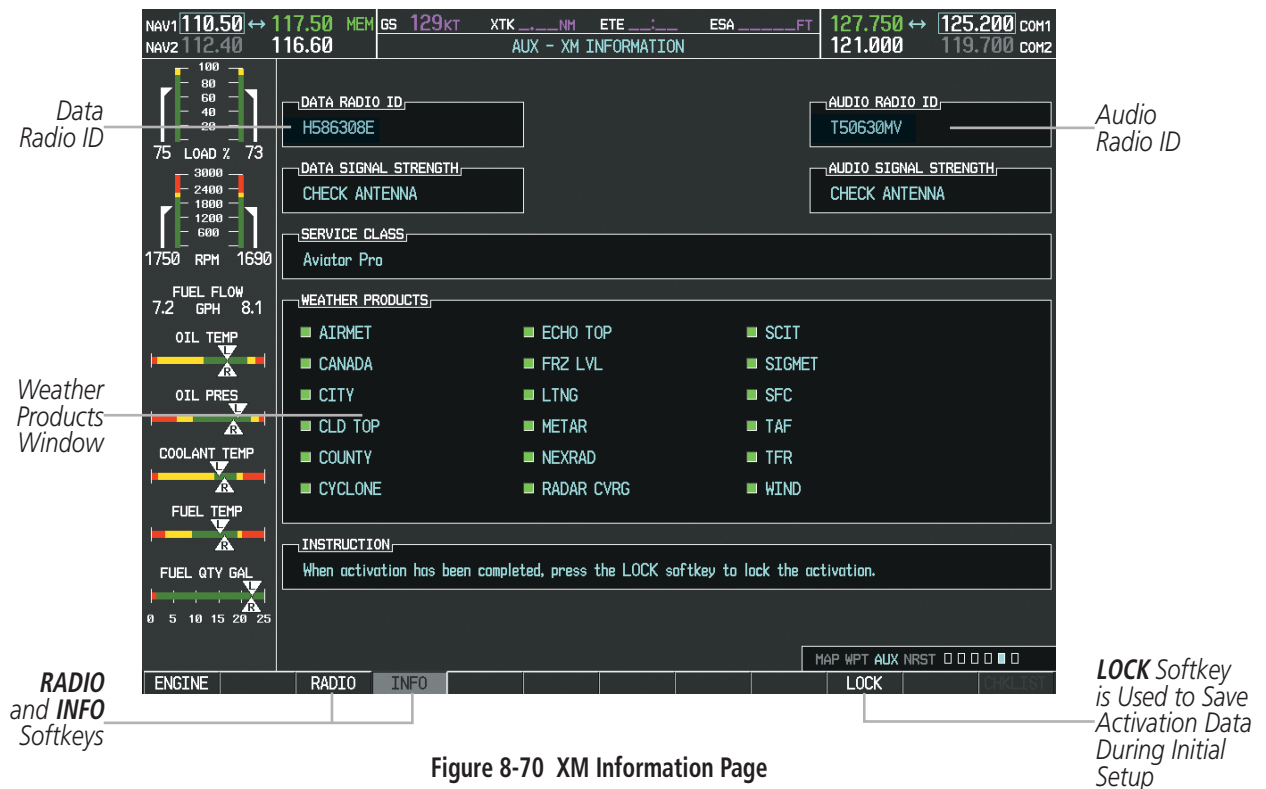

Figure 8-70 XM Information Page
- On the XM Information Page on the MFD (Figure 8-70)